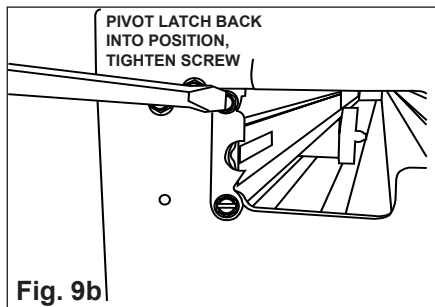

Fig. 9b
- c. Pivot the Face Strip Retaining Latch back into position. See Fig. 9b.